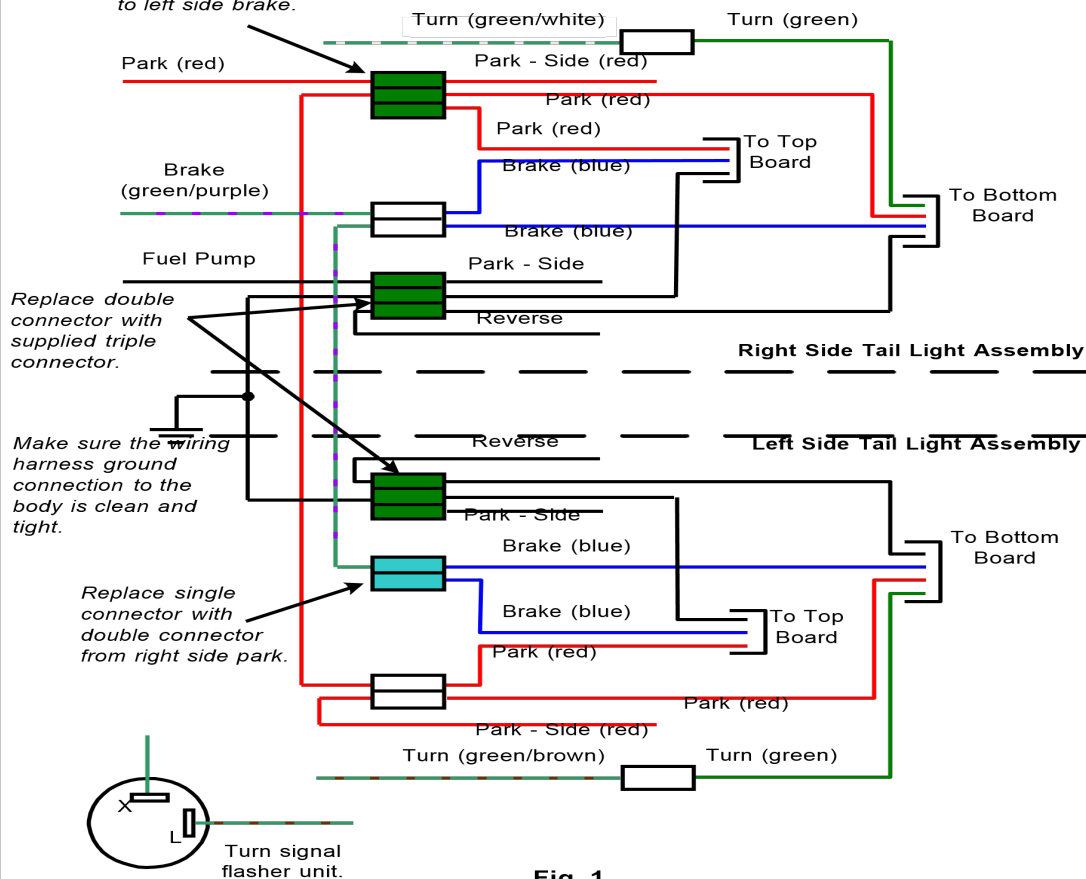

Fig. 1
The new LED tail light *grounds* are wired directly to the wiring harness which is grounded at a common point in the trunk. *Note: Verify that the common ground connection is clean and tight.* Replace the ground circuit double connector with the next supplied triple connector. This will also be done on the left side tail light installation. Refer to the installation wiring diagram (Fig.1).
9. When the Silicon is dry connect the LED wiring to the car's wire harness as defined in the electrical diagram below (Fig 1).